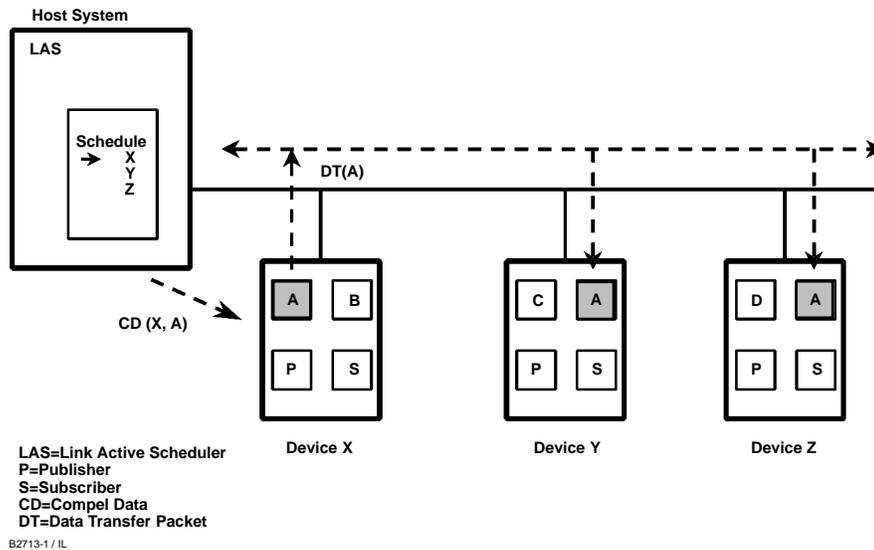

Figure A-3. Scheduled Data Transfer
Figure A-3 diagrams the method of scheduled data transfer. Scheduled data transfers are typically used for the regular cyclic transfer of process loop data between devices on the fieldbus. Scheduled transfers use publisher/subscriber type of reporting for data transfer. The Link Active Scheduler maintains a list of transmit times for all publishers in all devices that need to be cyclically transmitted. When it is time for a device to publish data, the LAS issues a Compel Data (CD) message to the device. Upon receipt of the CD, the device broadcasts or “publishes” the data to all devices on the fieldbus. Any device that is configured to receive the data is called a “subscriber.”